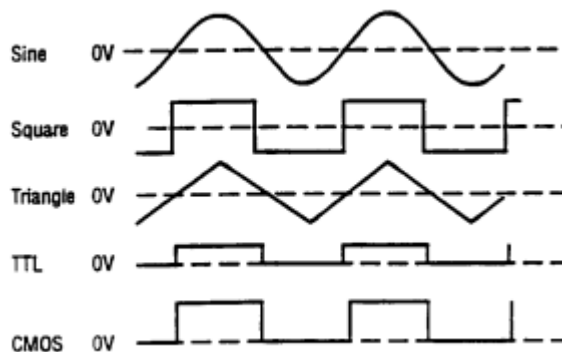

Figure 2. Output Waveform and Phase Relationship
1. Initially, verify that the **DUTY CYCLE** (2), **CMOS LEVEL** (3), **DC OFFSET** (4), **-20dB** (5), and **SWEEP EXT/INT** (22), and **AM/FM** (35) switches are in the released position. This will produce a symmetrical waveform unaffected by the sweep generator and other controls.
2. Plug the unit into an appropriate power source and turn it on by depressing the **POWER** switch (1).
3. Select the desired waveform (**SINE**, **SQUARE**, or **TRIANGLE**) by depressing one of the **FUNCTION** switches (9). Phase relationships of the waveforms are shown in Fig. 2.
4. Select the frequency of the waveform by depressing one of the **RANGE** switches (6). The output frequency is displayed, along with the appropriate measurement units. **KHz** or **Hz** (31), on the LED display.
5. Rotate the **COARSE** (28) frequency control to quickly set the output frequency to the approximate desired value. The **FINE** (26) frequency control can then be used to easily set the output to the specific desired value. The frequency selected is available at the **OUTPUT** jack (13). In addition, a digital signal, either TTL or CMOS is available at the **TTL/CMOS** jack (15) (refer to the “TTL/CMOS OUTPUT” section of this manual).